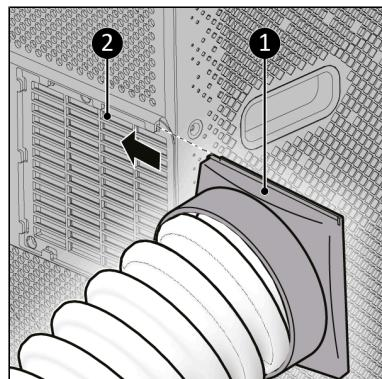

Figure 28.
7. Connect the hose connector (Figure 28, pos. 1) to the hot air outlet of the device (Figure 28, pos. 2).